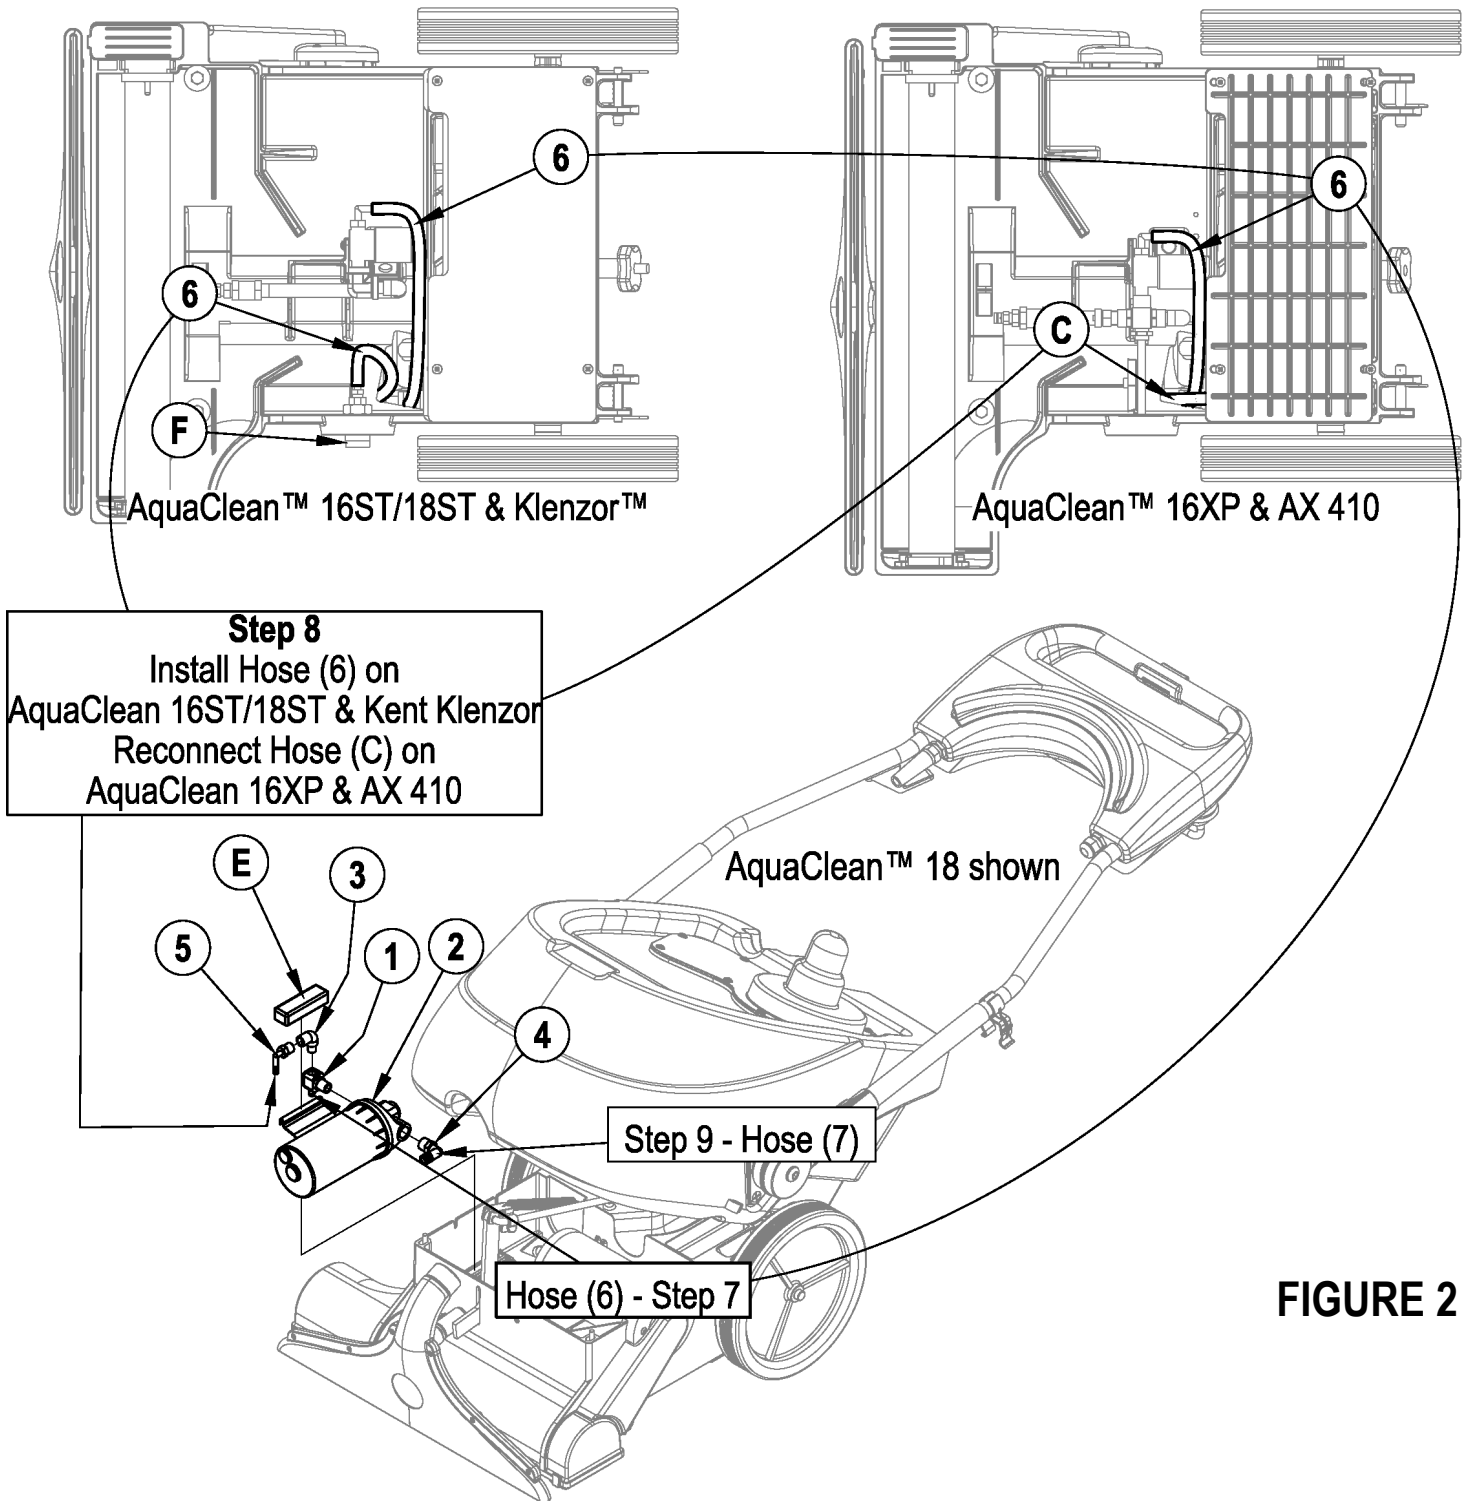

FIGURE 2
- 6 See Figure 2. Assemble Items (1-5) as shown and install the Pump Assembly into the base and connect the pump wiring.
- 7 Install (1) Hose (6) between the Pump (2) and the nozzle assembly in place of Hose (B) removed in step 2 on all models.
- 8 Install the remaining Hose (6) between the Pump (2) and the Quick Disconnect (F) on AquaClean™ 16ST & 18ST and all Kent Klenzor™ models.